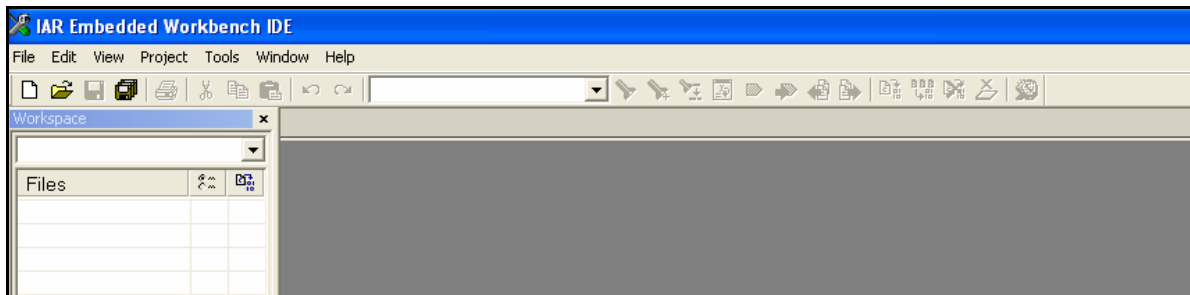

Figure 3. IAR Embedded Workbench welcome screen
2. In the menu bar of figure 3, select **project→create new project**. The Create New Project screen is displayed.